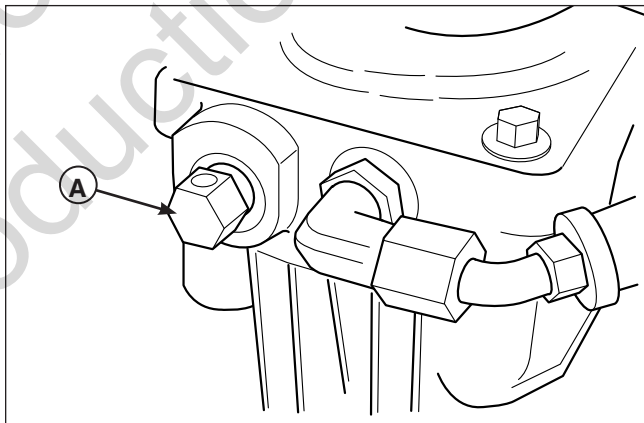

Figure 9. Hydraulic System By-Pass
3. To disengage the pumps (free-wheel position), turn the hydraulic release valves (A, Figure 9) located on the pumps COUNTER-CLOCKWISE a maximum of 2 full turns.